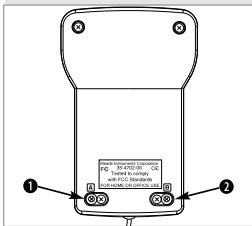

Fig. 51: Mode screws on rear of Electronic Controller. (1) Mode Screw A; (2) Mode Screw B.
- Remove mode screw B (2, Fig. 51) to make the *Southern Hemisphere polar* mode the automatic default of the Electronic Controller when power is applied (i.e., the motor drive is activated for operation in the Earth's Southern Hemisphere).